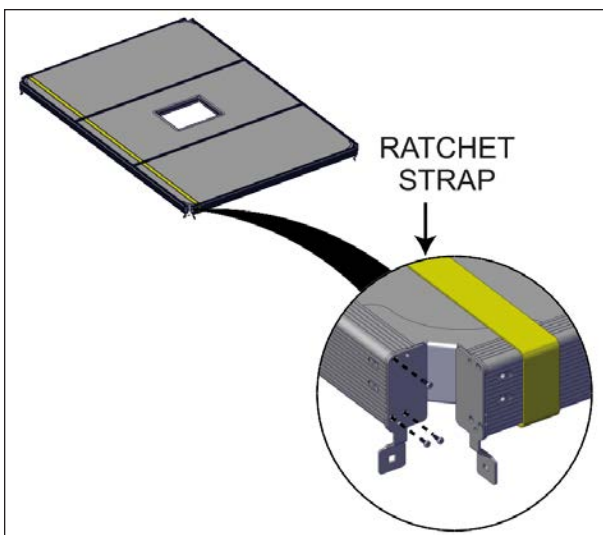

FIGURE 30: FOAM PANEL STRAPPING ON CORNERS
11. Use a 50 ft. (15 m) ratchet strap on each side to tighten the panels snugly in place. This operation is necessary for the next steps, see Figure 30.